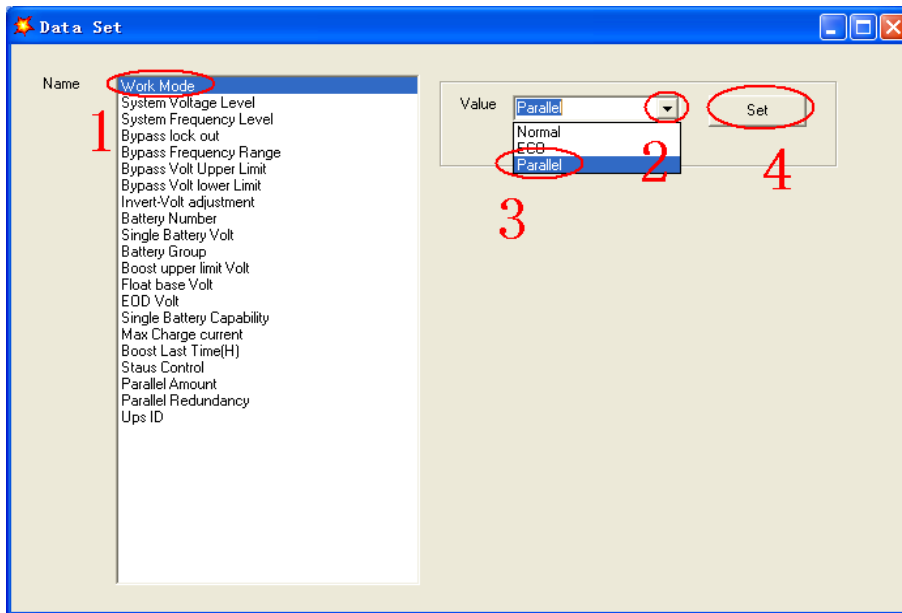

Fig. 5-13 Parallel mode selection
- At the window of “Data Set”, click “Work Mode”, choose “Parallel” for the value, then click “Set” as shown in below picture (Fig. 5-13). If the UPS sounds a “beep”, that means the setting is correct.